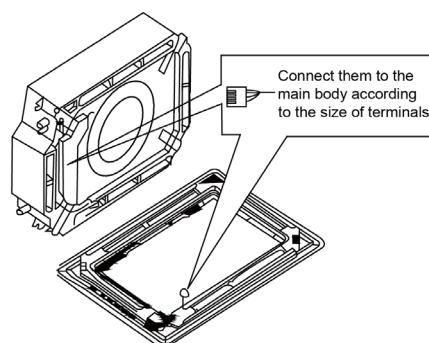

Fig.11
- (9) Wire the swing flap motor as shown in Fig.11.